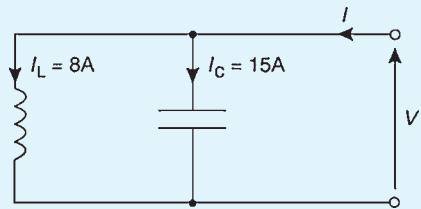

Figure 16.19
14. In the circuit shown in Fig. 16.19, the magnitude of the supply current  $I$  is: